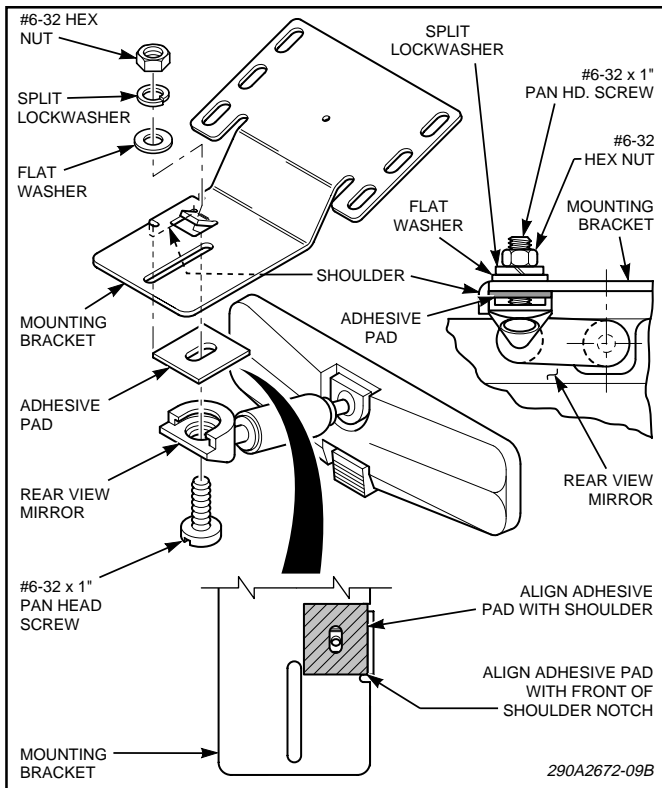
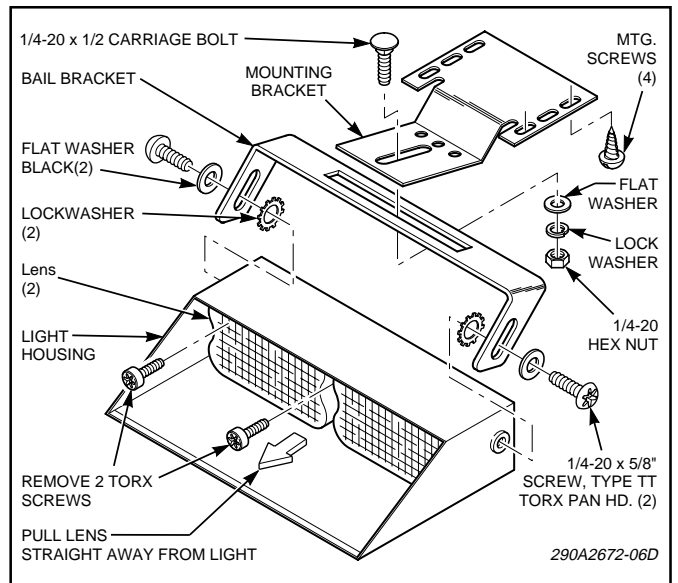

Figure 3.
Figure 4.
4. See figure 3. Remove the release liner from one side of the adhesive pad and secure the pad to the mounting bracket in the location shown. Remove the release liner from the other side of the adhesive pad and secure the rear view mirror in the mounting bracket's small slot using the #6-32 x 1" pan head screw, #6 flat washer, #6 lockwasher and #6 nut.
6. See figure 4. Assemble the bail bracket to the light assembly using the two 1/4" x 5/8" pan head screws, external tooth lockwashers, and black flat washers. Do not tighten the screws at this time. Cut the rubber gaskets to length and assemble to the sides of the light assembly as shown in figure 3.
7. See figure 4. Assemble the light assembly/bail bracket to the mounting bracket's center slot using the 1/4-20 carriage bolt, flat washer, split lockwasher, and 1/4-20 nut. Do not tighten the nut at this time.